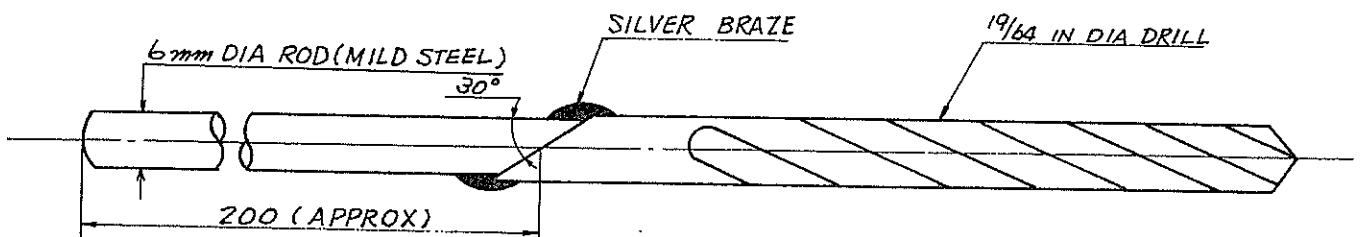

FIGURE 2. DETAIL OF SPECIAL DRIVER
9. SPECIAL TOOL : Special drill (See figure 2).